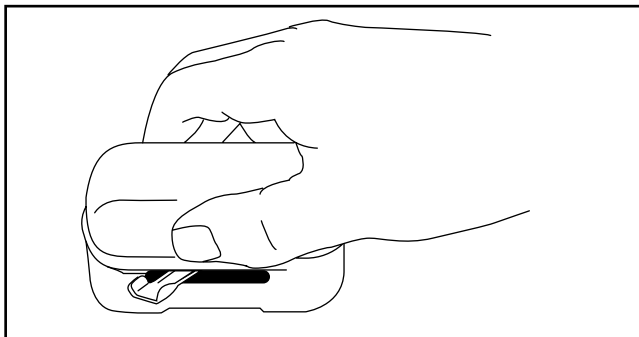

Fig. 23
1. Press the filter cover with your finger and remove the cover from the air filter base (Fig. 23).